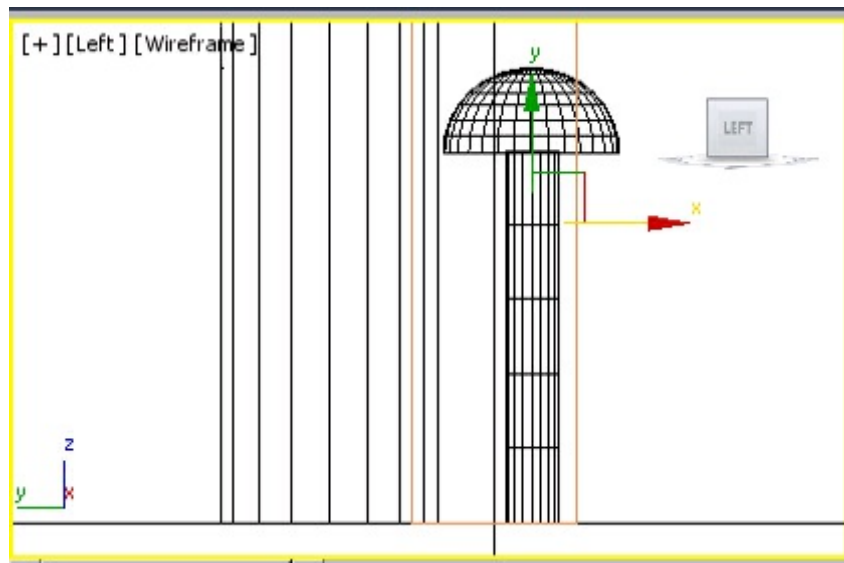

Figure 2-77 Alignment of cap and body
11. Next, align *cap* and *body* of the rivet in the Left viewport using the **Select and Move** tool, as shown in Figure 2-77.